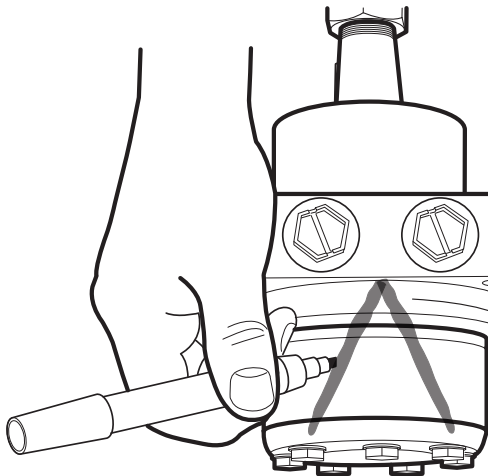

Figure 3, Identification Mark
1. To ensure correct alignment and location during reassembly of motor parts, provide a “V” shaped identification mark. *See figure 3.*